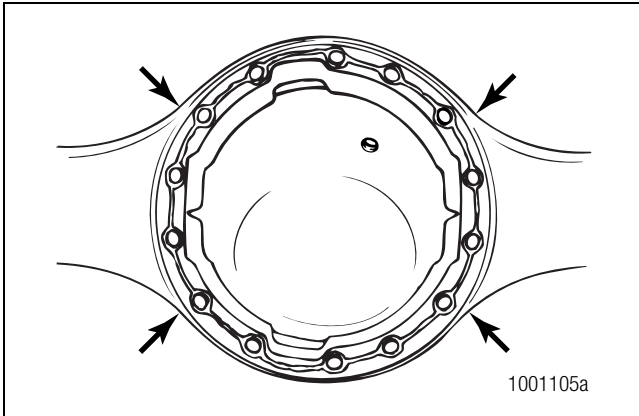

Figure 5.53
7. Install the nuts and washers or capscrews and washers into the four corner locations around the carrier and axle housing. Hand-tighten the fasteners. Figure 5.53.
8. Carefully push the carrier into position. Tighten the four fasteners two or three turns each in a crisscross pattern. Figure 5.53.